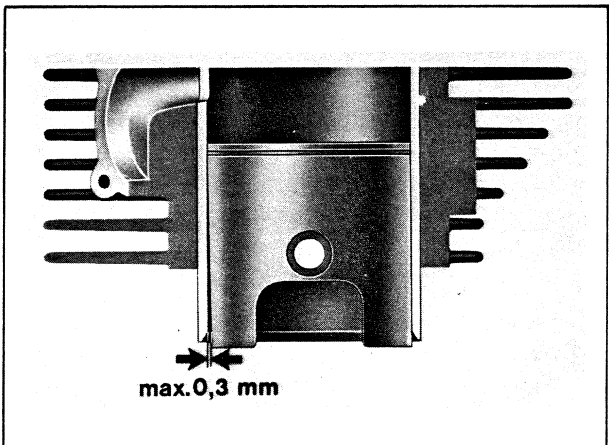

Fig. 8.4
B. When the piston skirt is worn down so that a measurement of approx 0,3 mm can be taken as illustrated in fig. 8.4, scrap the piston.